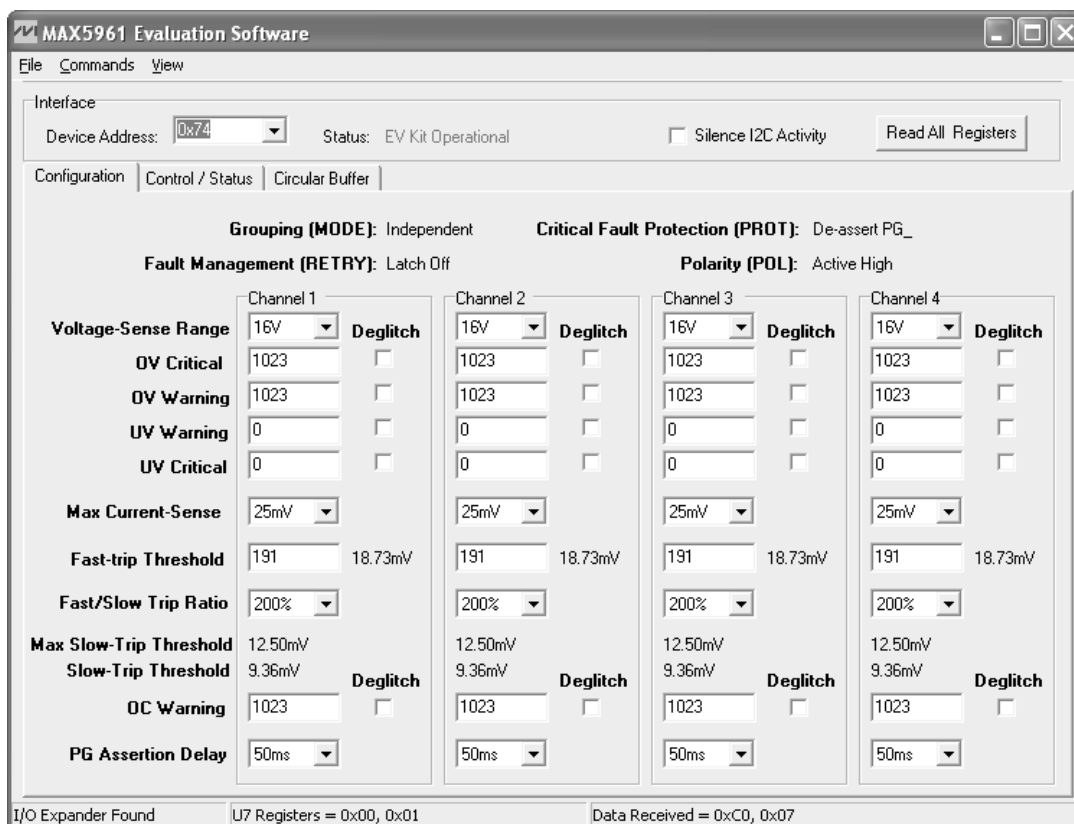

Figure 1. MAX5961 EV Kit Software Main Window
- 23) Start the MAX5961 EV kit software by opening its icon in the **Start | Programs** menu. The EV kit software main window appears as shown in Figure 1.
The MAX5961 EV kit GUI software provides a user interface (Figure 1) to control the programmable features of the MAX5961 IC. To start the MAX5961 EV kit software, double click the MAX5961 EV kit icon created during installation. The user has to wait approximately 2s while the software detects and configures the MAX5961 EV kit.
The user interface (shown in Figure 1) is easy to operate. Use the mouse, or press the Tab key to navigate through the GUI controls. The software divides the EV kit functions into logical blocks. At the top, the Interface box contains system functions and each tab groups functions for each channel. The correct I2C read or write operation is generated to access the internal memory registers of the MAX5961 when any of these controls are used.
The EV kit software **Configuration** tab (Figure 1) displays the MODE, PROT, RETRY, and POL general settings at the top, while grouping channel-specific settings below. See Table 1 for GUI control details for each channel. Check the **Deglitch** checkboxes located to the right of the **OV Critical**, **OV Warning**, **UV Warning**, **UV Critical**, and **OC Warning** input controls to enable the deglitch feature for those settings.